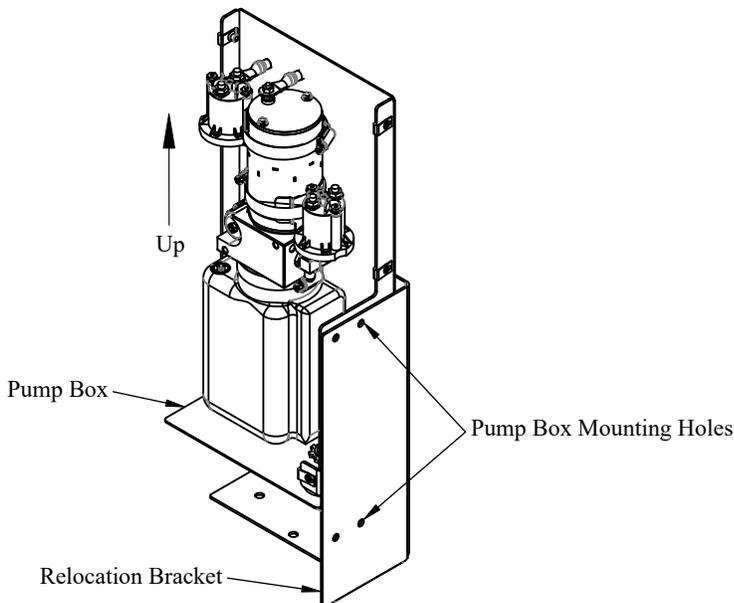

Figure 5: Pump box mounted in vertical position on relocation bracket.
The pump box must remain in a vertical position after remounting (Figure 5).
16. **Install** pump box in pump box relocation bracket using bolts removed in previous step (Figure 5).